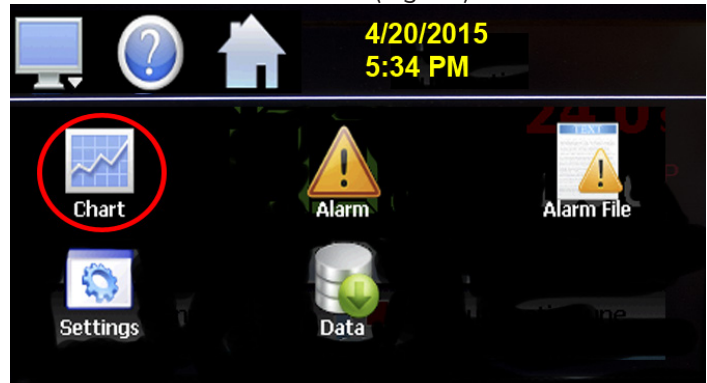

Fig. 65: CHART Icon
1. The Chart screen is accessed by touching HOME - MONITOR - CHART icons (Fig. 65).